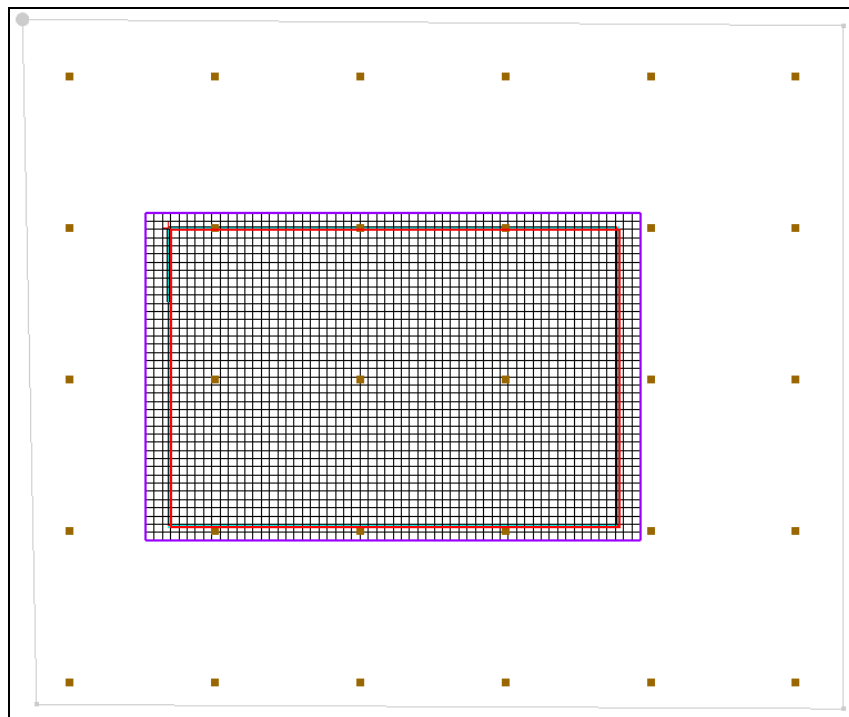

Figure 6 The new local grid
8. **Zoom**  in on the newly-created grid. The view should be similar to Figure 6.